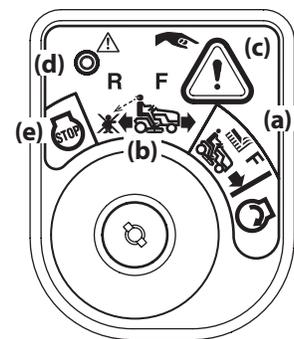

Figure 3-4
- Turn the key from the NORMAL MOWING  (a) position to the REVERSE CAUTION MODE  (b) position of the ignition module. See Figure 3-4.
- Press the REVERSE PUSH BUTTON  (c) at the top, right corner of the ignition module. The red indicator light (d) at the top, left corner of the ignition module will be ON while activated. See Figure 3-4.
- Always look down and behind before and while backing to make sure no children are around. After resuming forward motion, return key to the NORMAL MOWING  (a) position. See Figure 3-4.